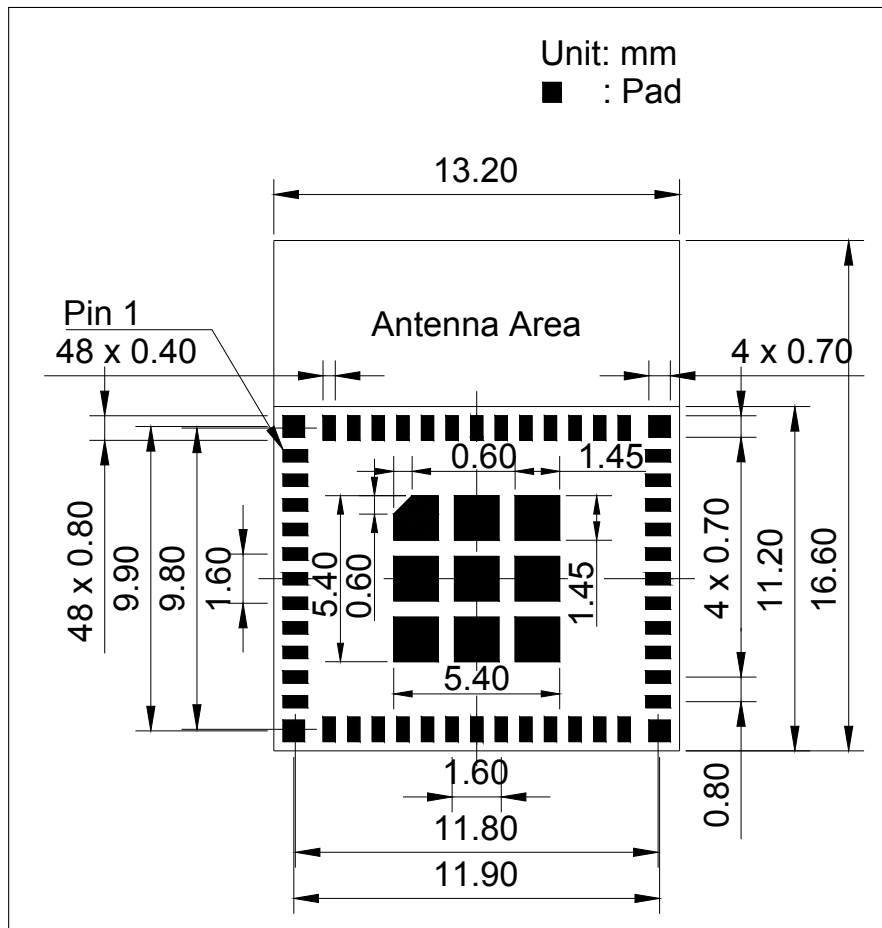
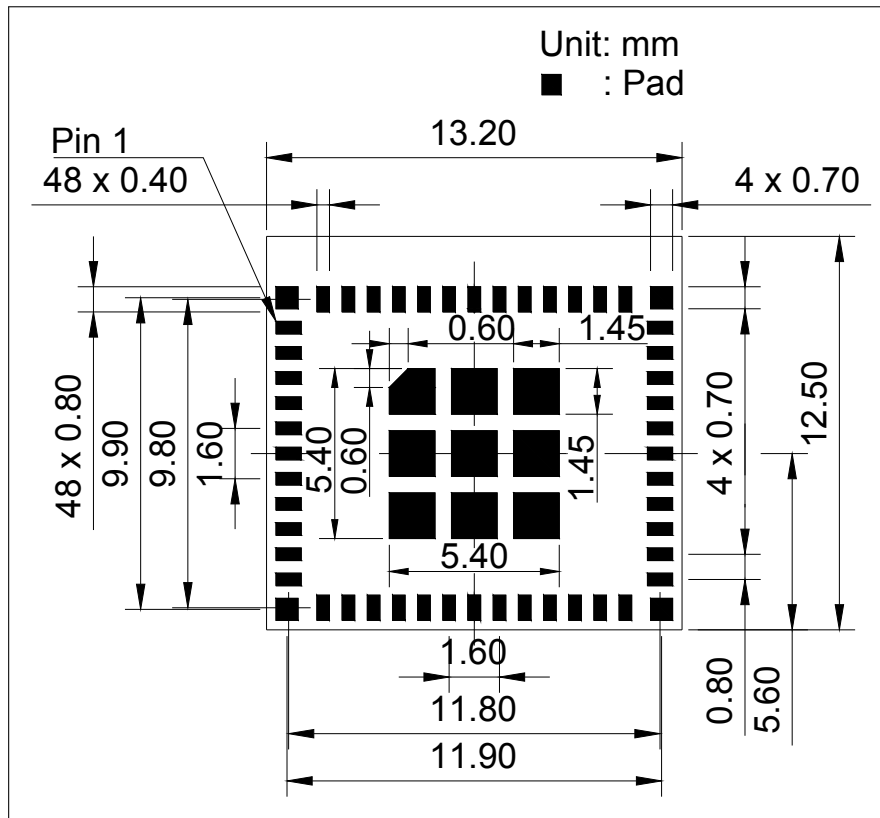

Figure 11: ESP32-C6-MINI-1 Recommended PCB Land Pattern
Figure 12: ESP32-C6-MINI-1U Recommended PCB Land Pattern
- Figures for recommended PCB land patterns with all the dimensions needed for PCB design. See Figure 11 *ESP32-C6-MINI-1 Recommended PCB Land Pattern* and Figure 12 *ESP32-C6-MINI-1U Recommended PCB Land Pattern*.
- Source files of recommended PCB land patterns to measure dimensions not covered in Figure 11 and Figure 12. You can view the source files for ESP32-C6-MINI-1 and ESP32-C6-MINI-1U with Autodesk Viewer.